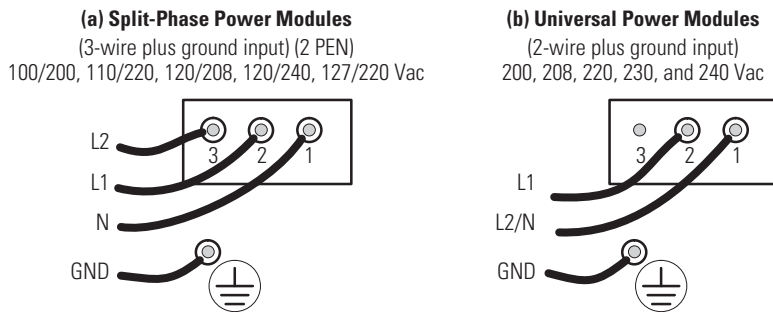

Figure 17. UPS Input Wiring
- Wire the UPS for the proper input voltage as shown in Figure 17.
Confirm that the UPS is wired for the proper input voltage as shown in Figure 17, and that the proper power modules (either split-phase or universal) are installed to produce the desired output voltage. Do not mix the two types of power modules in the same UPS cabinet.